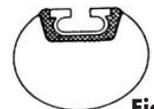

Fig. 13
11. Sticky wax the female into the formed recess in the abutment casting, being careful not to get wax inside the attachment (Fig. 13).